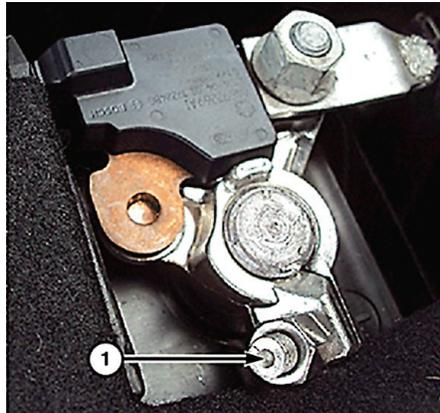

Fig. 1 Captive nut location
1. Disconnect and isolate battery ground cable by removing only captive nut (1) securing terminal end to post, **Fig. 1**.